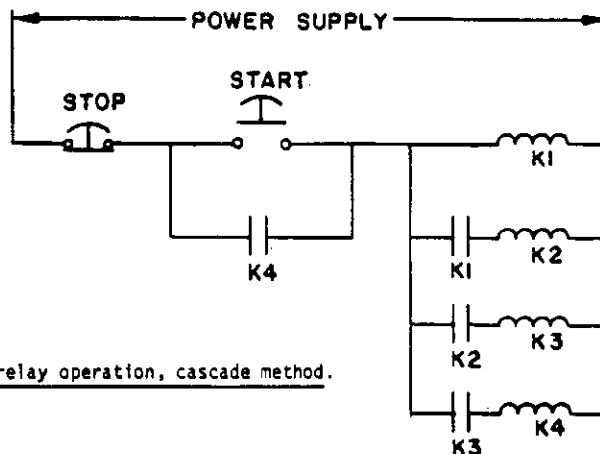
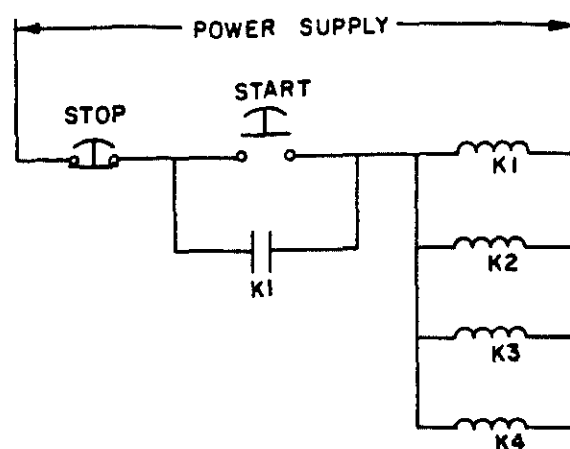

FIGURE 4. Concurrent relay operation, cascade method.
FIGURE 5. Concurrent relay operation, parallel method.
- (1) If the load is a synchronous motor, it will accelerate to lock in with the source frequency. Likewise, the synchronous machines used as sources will tend to synchronize if they are interconnected. The transient voltages, currents, and torques are usually high, depending on the designs and mechanical and electrical couplings involved, especially if the transfer between sources takes place when the source voltages are out of synchronization so that motors will suddenly accelerate (or decelerate) into step.
- (2) If the load is an induction motor, care should be exercised to assure that the frequency to which the motor is transferred is no less than the frequency minus slip; otherwise the motor would be severely braked as it performs as an asynchronous generator, with resultant mechanical and electrical transients.
- (3) When ac circuits are switched, consideration should be given to detrimental effects on the loads and/or the generators. The proper functioning of the relay is important, but no more important than the damage to associated equipment.
**6.2.3 Multiple relay operation.** When more contacts are required than are practical on a single relay, multiple relays must be used. When this is necessary, cascading (see figure 4) rather than paralleling (see figure 5) should be considered. A contact on the first relay is used to energize the second; a contact on the second is used to energize the third. Each relay is energized in turn by a contact on the preceding relay in the string. A contact on the last relay is used as the interlock or holding contact of the entire array.